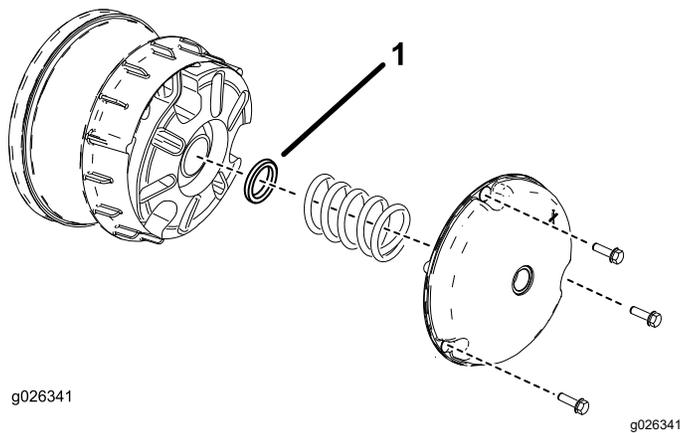

Figure 64
2. Remove the bolts securing the primary clutch cover as shown in Figure 64.